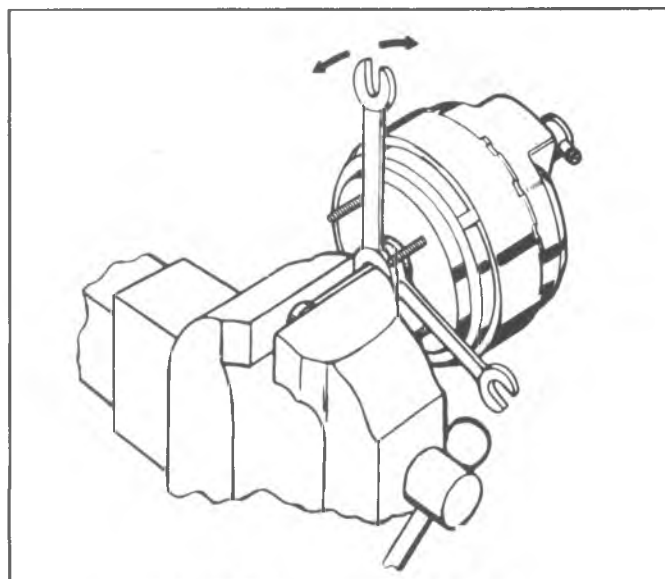

Fig. 5-1B--Removing Air Valve Rod
7. Position two small blocks of wood on either side of air valve rod and install end of air valve rod in vise, leaving just enough clearance to position two (2) open end wrenches between the vise and retainer on hub of rear plate.
8. Using the wrench nearest the vise as a pry, force the air valve off the ball end of the rod. DO NOT damage the plastic hub or allow vacuum cylinder to fall to the floor (fig. 5-1B and 5-2B).
9. The edge of the rear housing contains twelve (12) lances. Four (4) of these lances (one in each quadrant)